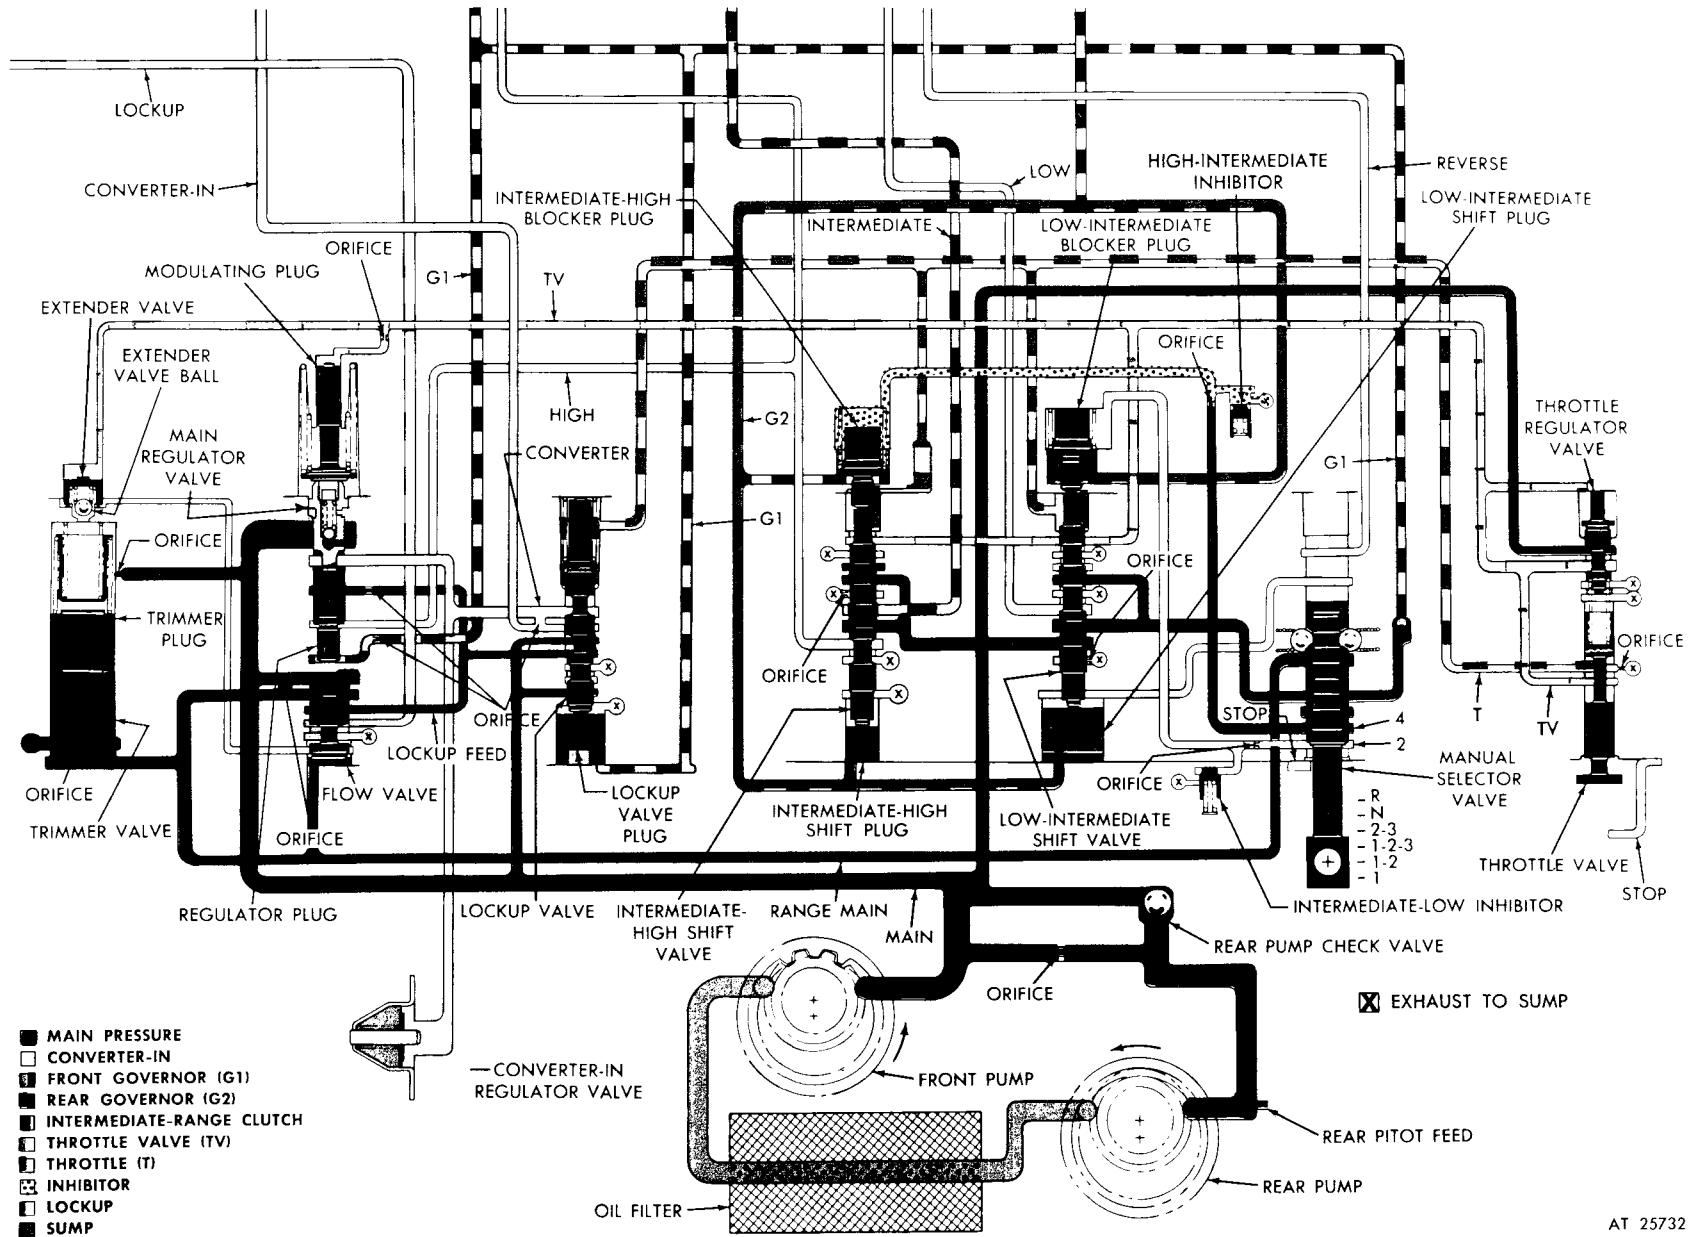

Figure 2-5. Hydraulic system, intermediate-range operation—schematic view.
a. Main Pressure Circuit (red—fig. 2-5).
(1) The main pressure circuit in intermediate range functions as described in paragraph 2-15a for low-range operation except for the differences outlined in (a) through (e) below.
(2) The results of the differences in the main pressure circuit are explained in the various circuit explanations which follow.
b. Converter-In Circuit (yellow—fig. 2-5). The converter-in circuit functions as described in paragraph 2-15b.
c. Front Governor (G1) Circuit (blue, black—fig. 2-5). The front governor (G1) circuit functions as described in paragraph 2-15c
d. Rear Governor (G2) Circuit (green, black—fig. 2-5). The rear governor (G2) circuit functions as described in paragraph 2-15d except that increased G2 pressure, in the absence of intermediate-low inhibitor pressure, has forced the low-intermediate shift plug, shift valve, and blocker plug upward. This allows main pressure to be directed to the intermediate-high shift valve bore.
e. Intermediate-Range Clutch Circuit (red, yellow—fig. 2-5). At the intermediate-high shift valve, main pressure is connected to the intermediate-range clutch pressure line. This applies the clutch.
j. Throttle Valve (TV) Circuit (blue, yellow—fig. 2-5). The throttle valve (TV) circuit functions as describe in paragraph 2-15f.
g. Throttle (T) Circuit (green, yellow — fig. 2-5). The throttle (T) circuit functions as described in paragraph 2-15g.
h. Inhibitor Pressure Circuit (dotted red—fig. 2-5). In intermediate range (selector at 1-2 position), only the high-intermediate downshift inhibitor circuit is charged. It functions as described in paragraph 2-15 h.
i. Lockup Clutch Circuit (blue, white—fig. 2-5).
(1) The flow valve controls the lockup clutch circuit when a shift from one range to another occurs automatically or is made manually. In figure 2-5, the change can be considered as a manual change from selector position 1 to selector position 1-2, or it can be considered as an automatic upshift from 1 to 2 within selector position 1-2.
(2) The downward movement of the flow valve (a (1) (c) and (d) above) releases the lockup clutch temporarily and triggers the action of the trimmer valve. The flow valve moves downward when the shift has just occurred. It will stay downward until the oncoming clutch (intermediate range) is partially pressurized.
(3) When the flow valve is downward, lockup pressure is released. This is only temporary until the oncoming range clutch is filled and main pressure above and below the flow valve equalizes.
(4) Main pressure below the trimmer valve quickly lifts the trimmer valve until oil escapes through the exhaust port at the left. This reduces main pressure flowing to the clutch being applied. With negligible pressure above the trimmer plug, main pressure flowing through the orifice in the bottom of the trimmer valve forces the trimmer plug upward, away from the trimmer valve. The speed of its movement upward is influenced by throttle valve (TV) pressure being faster at closed throttle (para. 2-15 f(4)). The speed of its movement likewise influences clutch apply pressure initially. The higher TV pressure is, the higher initial clutch pressure is.
(5) The trimmer valve remains open (oil exhausting at left side) until the trimmer plug reaches the top of its stroke. When the trimmer plug stops, oil continues to flow upward through the orifice in the bottom of the trimmer valve. When pressure above and below the trimmer valve is equalized, spring pressure pushes the trimmer valve downward. This closes the exhaust port. Main pressure increases significantly below the flow valve to return the flow valve to its upward position and lockup pressure is restored. Main pressure is restored, at the same time, to the area above the extender valve ball.
(6) When the extender valve ball is seated, further flow of oil from the upper area of the trimmer valve bore is prevented. Then, oil entering the bore (from main), through an orifice, forces the